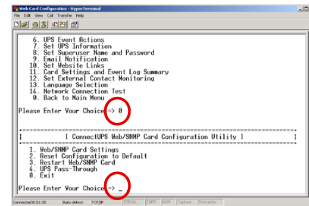

Figure 11. Exit
13. Type **0** and press **Enter** until you return to the Main Menu (see Figure 11).